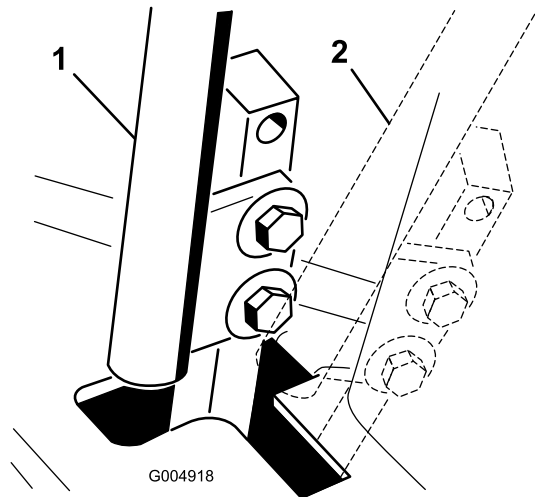

Figure 73
4. Move one of the levers to the neutral position but **not locked** (Figure 73).
6. Check where the control lever is relative to notch in console (Figure 73). It should be centered allowing lever to pivot outward to the neutral lock position.